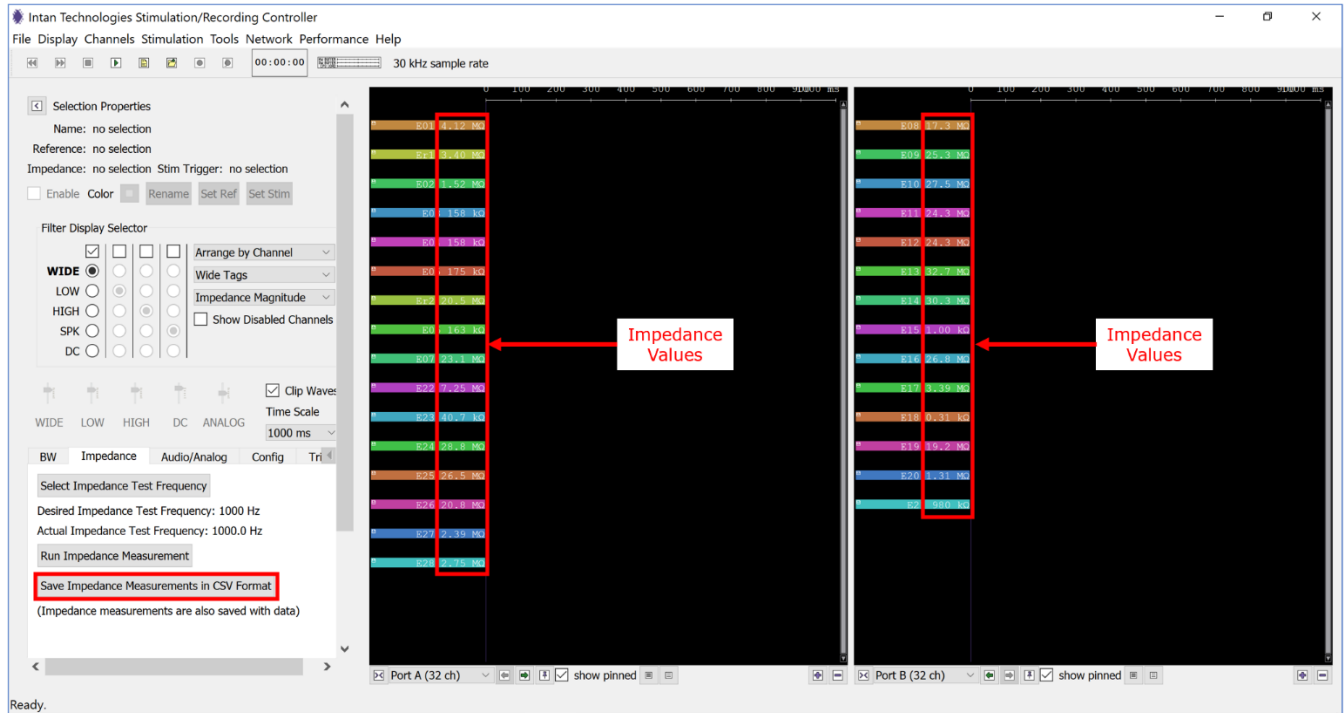

Fig. 39: GUI displaying impedance measurements.
- 4) If you want to save the data, click on the “Save Impedance Measurement in CSV format” button in the “Impedance” tab (**Fig. 39**, highlighted red). Note that this option is only available after impedance measurements have been taken.